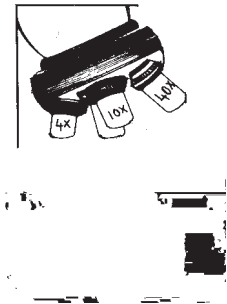

Fig. 9.5
- Turn the nose-piece to the objective with lowest magnifying power before removing the slide and when the microscope is not in use (Fig. 9.5).